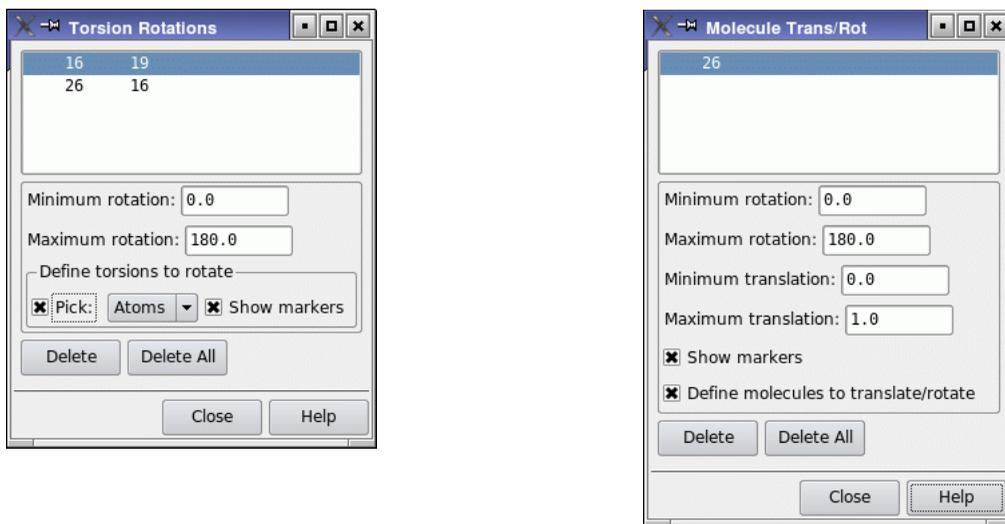

Figure 4.3. The Torsion Rotations panel (left) and the Molecule Trans/Rot panel (right).
11. In the CSearch tab, from the Search variables option menu choose Torsion Rotations, then click Edit, to open the Torsion Rotations panel (see Figure 4.3).
14. In the CSearch tab, from the Search variables option menu choose Molecule Trans/Rot, then click Edit, to open the Molecule Trans/Rot panel (see Figure 4.3).